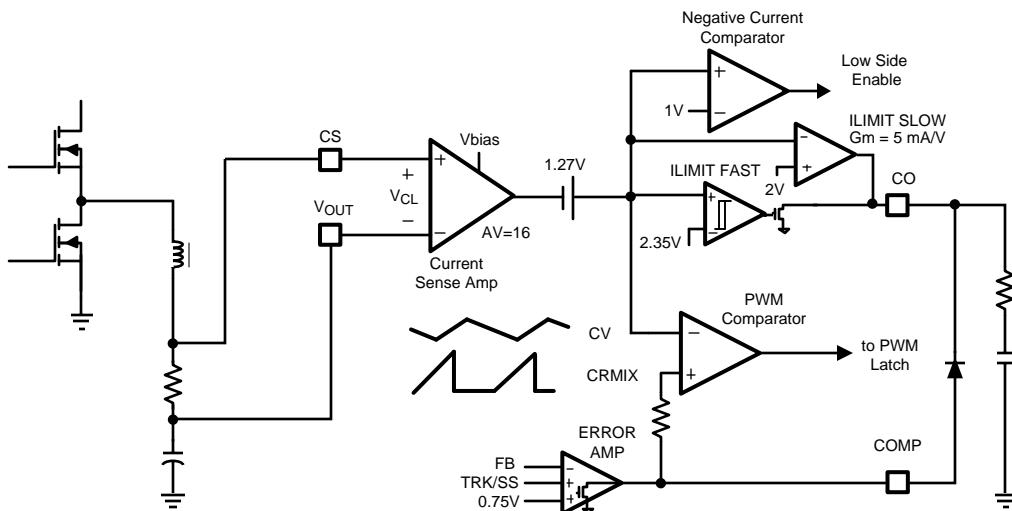

Figure 21. Current Sensing and Limiting
The current sense amplifier shown in Figure 21 monitors the inductor current as it flows through a sense resistor connected between CS and VOUT. The voltage gain of the sense amplifier is nominally equal to 16. The current sense output signal is shifted by 1.27V to produce the internal CV reference signal. The CV signal is applied to the negative input of the PWM comparator and compared to CRMIX as illustrated in Figure 21. Therefore when CRMIX exceeds the PWM threshold (CV), the PWM comparator turns on the high-side MOSFET. Insure that the Vbias voltage is at least 3V above the regulated output voltage (VOUT) to provide enough headroom for the current sense amplifier.
Current limiting is implemented through the current sense amplifier as illustrated in Figure 21. The current sense amplifier monitors the inductor current that flows through a sense resistor connected between CS and VOUT. The voltage gain of the current sense amplifier is nominally equal to 16. The output of current sense signal is shifted by 1.27V to produce the internal CV reference signal. The CV signal drives two current limit amplifiers. Both of the current limit amplifiers have open drain (sink only) output stages which are connected to the CO pin. The CO pin is typically connected to the COMP pin through a diode (the cathode is connected to the CO pin and the anode is connected to the COMP pin). The slow current limit amplifier has a nominal transconductance of 5 mA/V and provides constant current mode operation at the desired current limit set point. The fast current limit amplifier has nominal current pull-down capability of 100mA and provides protection against fast over-current conditions. During normal operation, the voltage error amplifier controls the COMP pin voltage which adjusts the PWM duty cycle by varying the internal CRMIX level. However when the current sense input voltage,  $V_{CL}$ , exceeds 45mV, the slow current limit amplifier gradually pulls down on COMP through the CO pin. Pulling COMP low reduces the CRMIX signal and thereby reducing the operating duty cycle. By controlling the operating duty cycle, the slow current limit amplifier will force a constant current mode of operation at the desired current limit set point (Figure 23). A resistor in series with a capacitor are connected from the CO Pin to ground to provide adequate control loop compensation for the slow current limit (Figure 21). The desired current limit set point,  $ILimit$ , can be programmed by selecting the proper current sense resistor,  $R_{SENSE}$ , using the following equation:
Under certain conditions synchronous buck regulators are capable of sinking current from the output capacitors. This energy is stored in the inductor and returned to the input source. The LM25115A detects this current reversal by detecting a negative voltage being developed across the current sense resistor. The intent of this negative current comparator is to protect the low-side MOSFET from excessive currents. Excessive negative current can also lead to a large positive voltage spike on the HS pin at the turn-off of the low-side MOSFET. This voltage spike may damage the chip if its magnitude exceeds the maximum voltage rating of the part. The negative current comparator threshold is sufficiently negative to allow inductor current to reverse at no load or light load conditions. It is not intended to support discontinuous conduction mode with diode emulation by the low-side MOSFET. The negative current comparator shown in Figure 21 monitors the CV signal and compares this signal to a fixed 1V threshold. This corresponds to a negative  $V_{CL}$  voltage between CS and VOUT of -17mV. The negative current limit comparator turns off the low-side MOSFET for the remainder of the cycle when the  $V_{CL}$  input falls below this threshold.